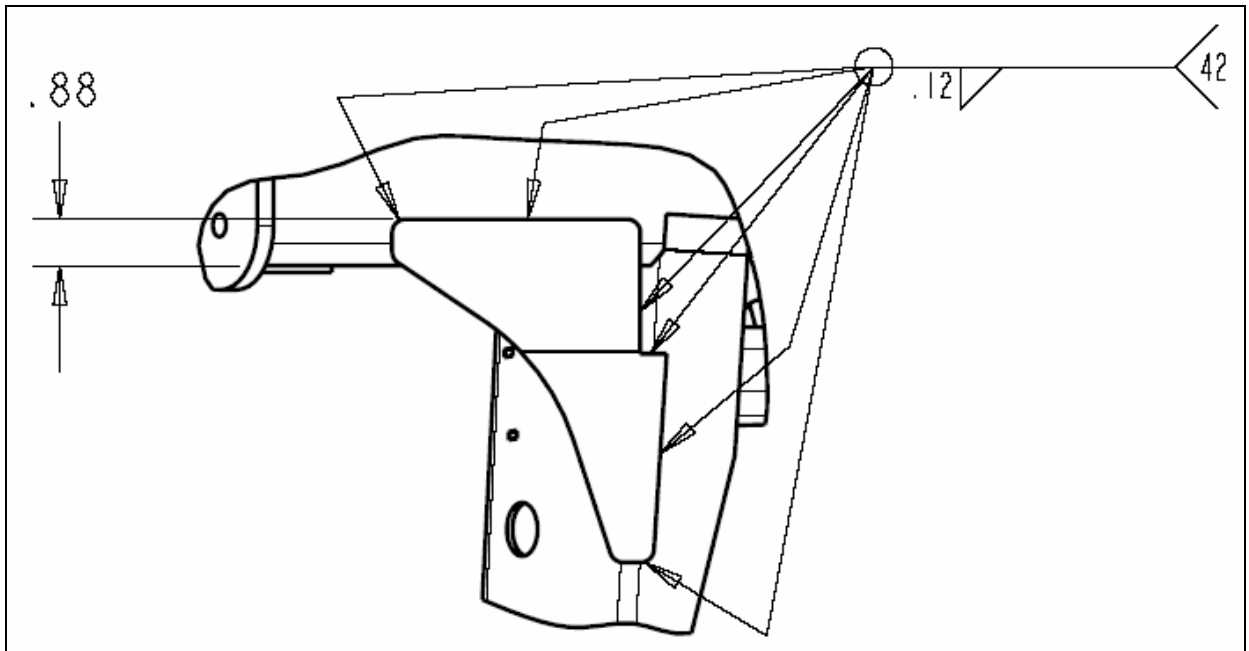

Figure 5: Weld gusset 10543-22 to the bottom of the driver side trailing arm and lower housing
- d. Prepare and clean contacting surfaces and then weld the gusset to the underside connection between the driver side trailing arm and the axle housing as shown in Figure 5.